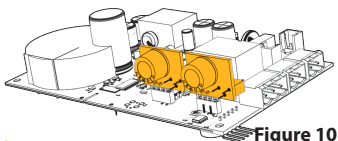

Figure 10
- 4) Find the location of the sensor module on the card. (Figure 10)